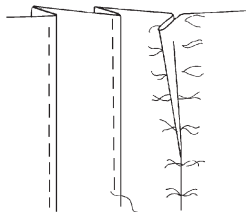

Fig. 6-2
3. Baste each pleat in place along the entire fold line. (Fig. 6-2)